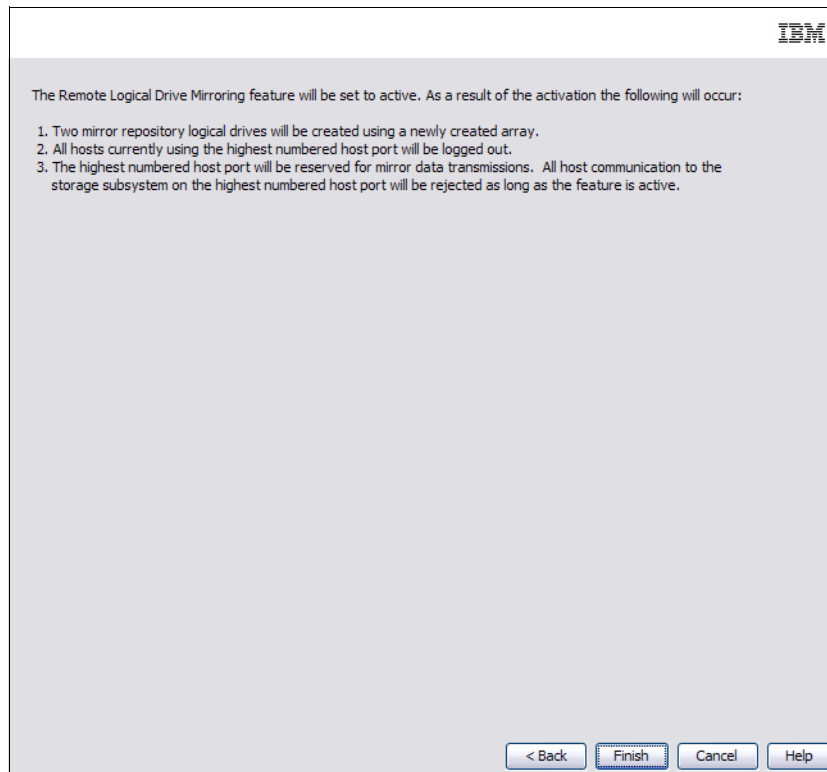

Figure 5-12 Activate Remote Mirroring wizard: Preview
- An existing array with sufficient free space: If you choose this option, select the array and click **Next** to go to step 3 on page 170 (and proceed to the Preview window, shown in Figure 5-12 on page 171).
3. After choosing where to create the mirror repository logical drives, the Preview window opens, as shown in Figure 5-12.